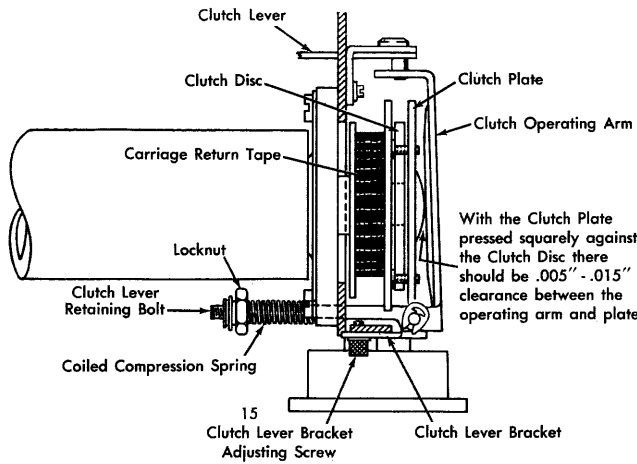

Figure 31. Clutch Clearance Adjustment
15. Adjust the clearance between the clutch plate and the clutch disc to .010" \pm .005" by positioning the bracket on the bottom of the side frame (Figure 31).